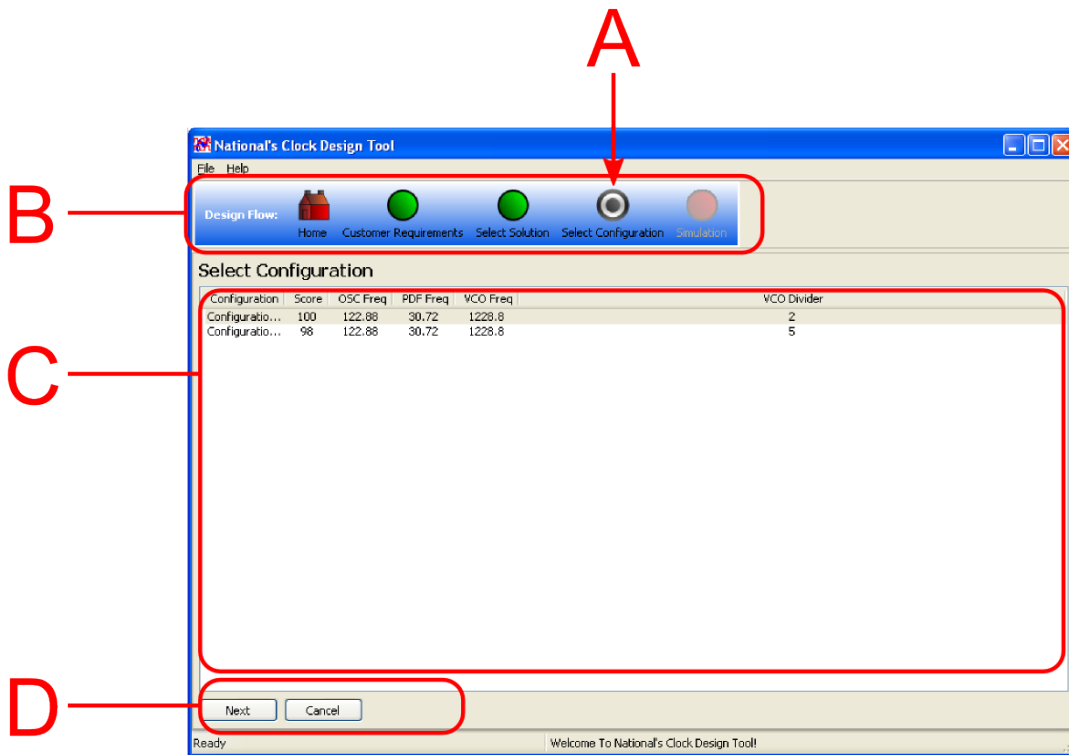

Figure 8: Select Configuration
The listbox (C), Figure 8, shows the various configurations the device may use to achieve the frequency requirements as entered on the customer requirements screen. It is possible that different VCO frequencies and divider values will achieve the same result. The various configurations are scored to estimate which configuration will have the best performance. The configurations are listed in order by Score. The columns describing the different configurations may differ depending on architectures selected at the customer requirements screen and are listed below.